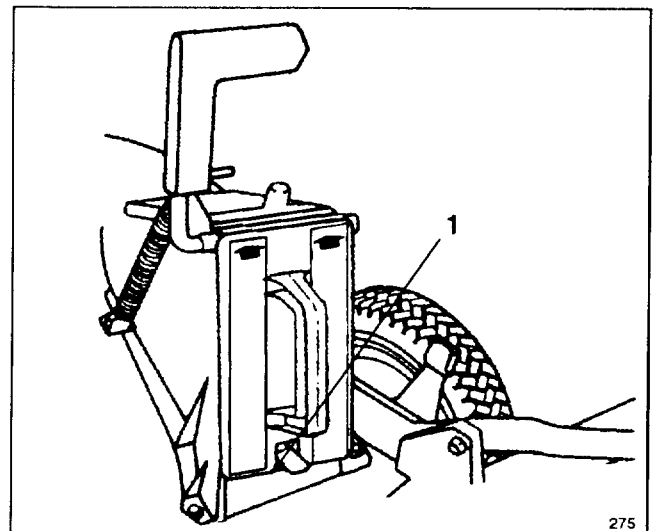

Figure 3
4. Push the plug all the way in until the spring clip on the bottom of the plug clicks into place, locking the plug securely into the discharge tunnel (Fig. 3). Release discharge door handle to lock top of plug.